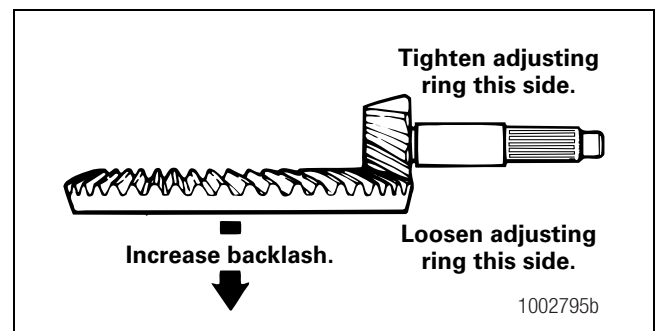

Figure 5.62
- **To increase the backlash:** Move the ring gear away from the drive pinion. Figure 5.62.